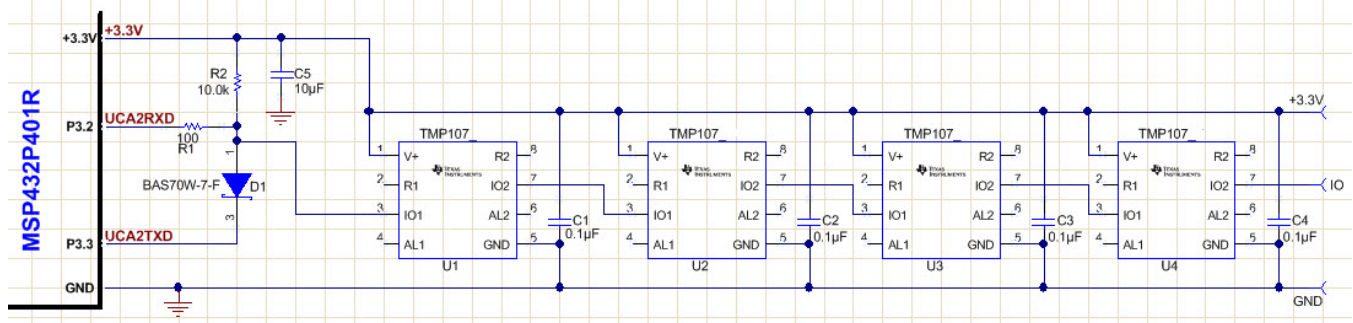

Figure 7. Example Microcontroller-Based Control Board
- Microcontroller UART port** – Figure 7 shows TI's MSP432 UART microcontroller port configured to work with the SMAART bus interface. This example uses an even simpler schematic to unite the signals on the SMAART bus and to provide RXD and TXD pin protection. A Schottky diode (D1, Figure 7) is needed to lower the low signal level on the I/O1 pin when the MSP432 is transmitting a logic-level zero. All considerations mentioned in the previous case are true for this schematic too.